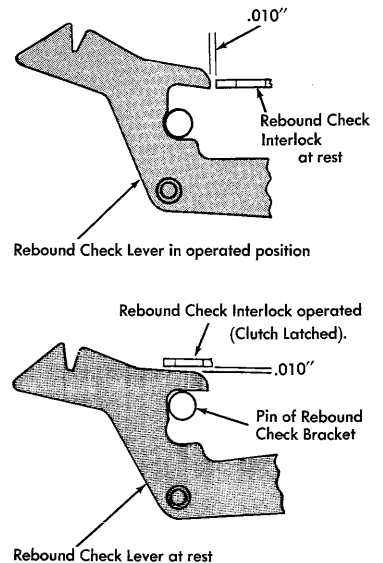

Figure 30. Rebound Check Interlock Lever
13. Adjust the link to the rebound check interlock so that the interlock lever clears the tab rebound check lever by about .010" when the rebound check lever is in its operated position. With the clutch unlatched, operate the tab lever by hand to observe this adjustment (Figure 30). Operate the carriage return cam by hand and observe that the rebound check interlock does not strike the rebound check lever at rest. Form the
top of the interlock lever to provide a clearance of about .010" (Figure 30).